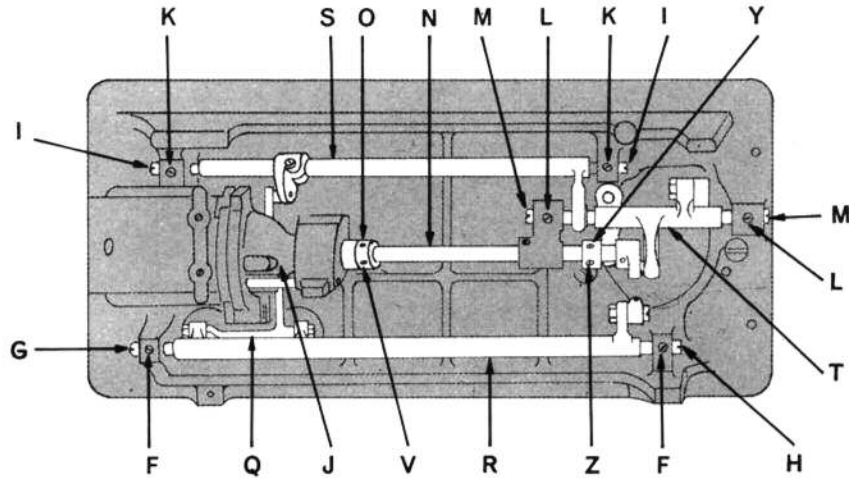
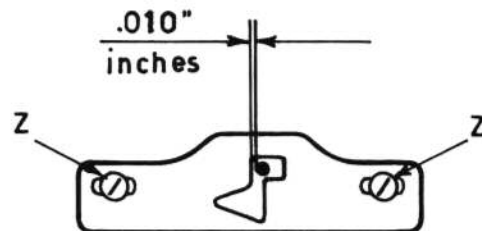

Fig. 12. Setting Feed Dog Sidewise and Adjusting for End Play or Binding.
Fig. 13A. Position of shuttle Race CAP in relation to the needle.
**SETTING: (See fig. 12)**
**SETTING:** (See Fig. 12 page 7)
The shuttle point should come as close as possible to the small groove side of the needle without touching the needle. Clearance between needle and front edge of shuttle race cap should be approximately .010 inches, see fig. 13A.
**SETTING:** (see fig. 12 pag. 7, fig. 30 pag. 20 and fig. 13A.)
4. Loosen screw Z, fig. 13A
SETTING: (See Fig. 12 pag. 7)